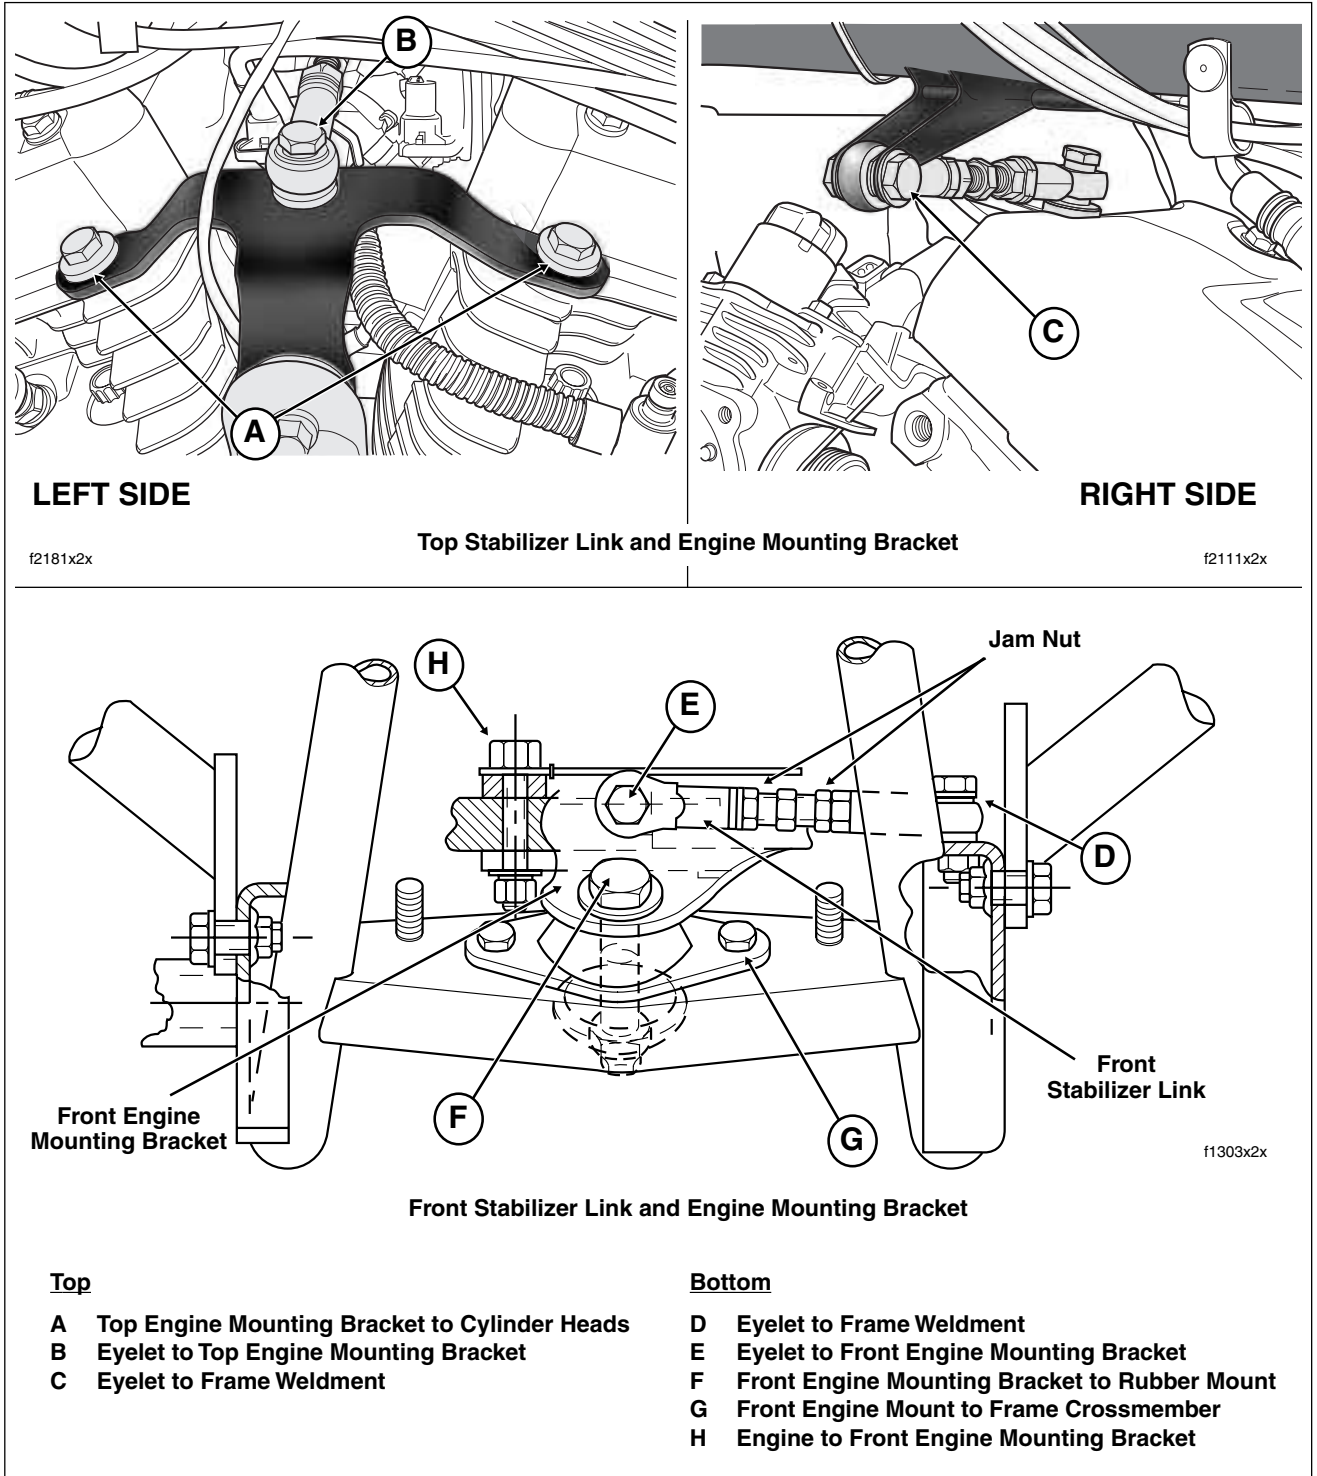

Figure 1-26. Engine Mounting Bracket Bolts
- On left side of motorcycle, tighten top engine mounting bracket bolts to front and rear cylinder heads to 35-40 ft-lbs (48-54 Nm). See A of Figure 1-26.
- Top stabilizer link - tighten eyelet bolt to top engine mounting bracket to 18-22 ft-lbs (24-30 Nm). See B of Figure 1-26.
- Moving to right side of motorcycle, tighten eyelet bolt to frame weldment to 18-22 ft-lbs (24-30 Nm). See C of Figure 1-26.
- Front stabilizer link - on left side of motorcycle, tighten eyelet bolt to frame weldment to 18-22 ft-lbs (24-30 Nm). See D of Figure 1-26.
- Moving to right side of motorcycle, tighten eyelet bolt to block on front engine mounting bracket to 18-22 ft-lbs (24-30 Nm). See E of Figure 1-26.
- Tighten center front engine mounting bracket to rubber mount bolt to 15-20 ft-lbs (20-27 Nm). See F of Figure 1-26.
- Tighten the two front engine mount to frame crossmember bolts to 15-20 ft-lbs (20-27 Nm). See G of Figure 1-26.
- Tighten two engine to front engine mounting bracket bolts to 33-38 ft-lbs (45-52 Nm). See H of Figure 1-26.